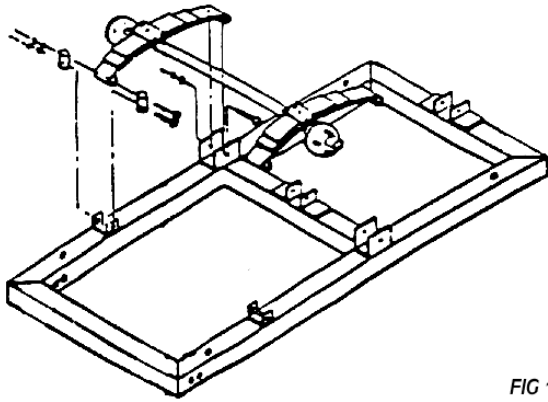

FIG 1A
- 2) Attach axle assembly to frame per fig. 1A.